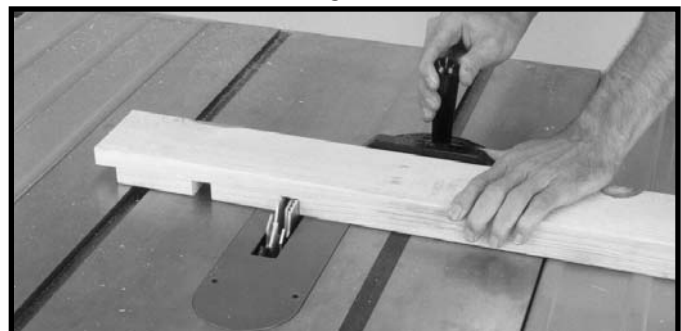

Fig. 89
3. Fig. 89, shows a typical dado operation using the miter gage as a guide.